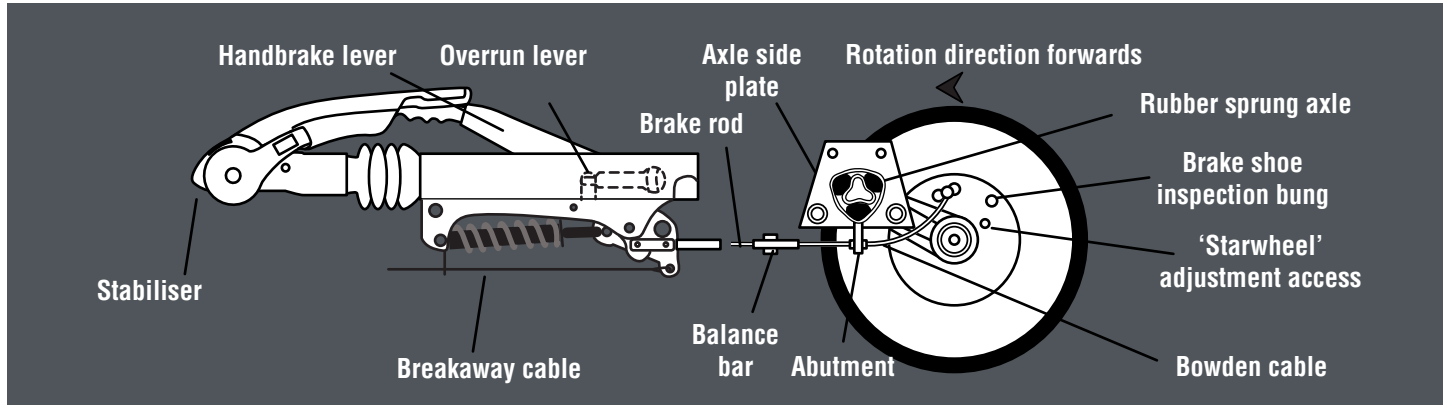
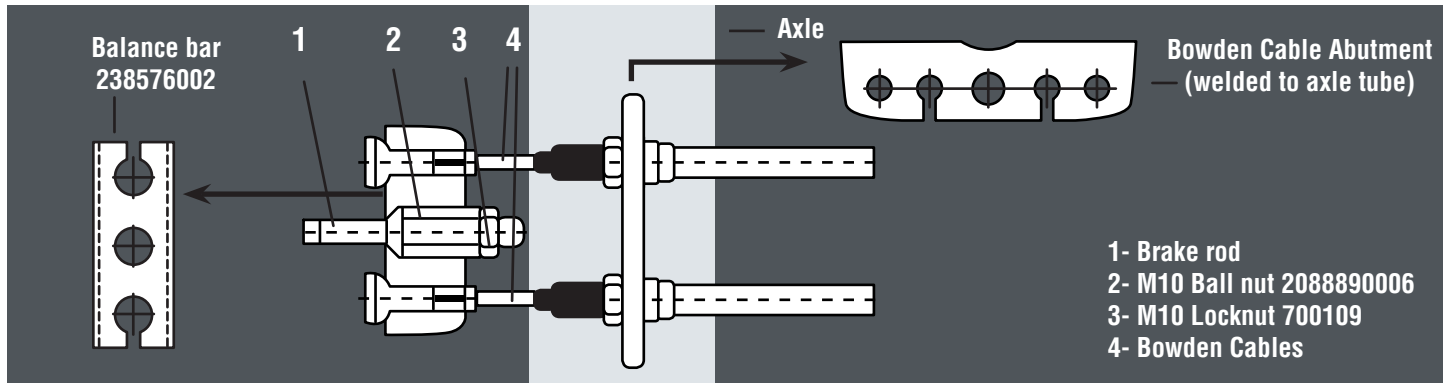

Fig 11 Brake Linkage
Fig 13a Standard Brake Linkage
1. Ensure the towing shaft with coupling head is pulled FULLY FORWARD. (Fig 11).
2. Release the handbrake to the FULLY OFF position. If the handbrake will not go down the whole way because of the fairing or any other obstruction; then the fairing must be cut away and/or the obstruction removed to achieve this desired position. It will not be possible to set up the braking system properly when the handbrake is not in the FULLY OFF position. (Fig 11).
4. Remove the inner plastic bung from the backplate to expose the 'starwheel' adjuster access. (Figs 11 & 12).
7. Check the adjustment at the end of the brake cable where it is secured to the abutment (bracket), welded to the centre of the axle. When the inner cable is pulled out it should extend between 5 and 8 mm. (Fig 13a\b). (On tandem axles a double abutment (bracket) is fitted to the front axle ONLY).
10. Ensure the balance bar (compensator) is being pulled evenly (Figs 11 & 13a\b). Excessive movement to this bar (double on tandem axles) would indicate possible incorrect adjustment (if appropriate, repeat step No. 7 - Fig 13a\b).
Note! Over adjustment to the long ball nut (Fig 13/Item 2) could induce movement of the inner brake cable, reducing the effective clearance of the brake shoes. If the overrun lever will not make contact, it is possible the two lock nuts, forward of the spring cylinder, are incorrectly adjusted. Loosen the nuts and adjust brake rod as above (Figs 11, 13a\b).